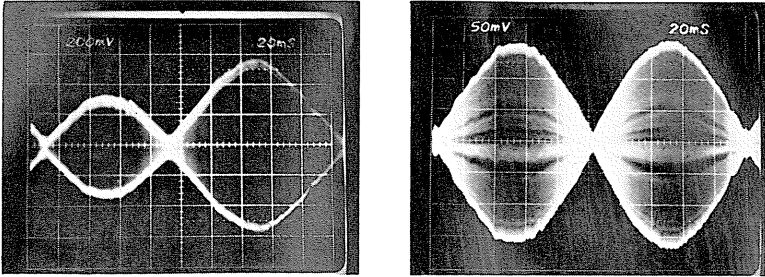

Figure 3-3. Cats Eye Pattern
- (1) Load Magnetic Head.
- (2) Perform 16 Step-In commands. The carriage will move to Track 16 (approximately).
- (3) Loosen the two stepper motor retaining screws on bottom of chassis.
- (4) Manually rotate stepper motor until the cats-eye pattern shown in Figure 3-3 is observed. Carefully rotate stepper motor until the cats-eye pattern has equal amplitudes (one lobe being 80 percent of the other).
- (5) Secure the stepper motor by tightening the retaining screws. Torque the two screws 9 to 11 in-lb.
- (6) After securing the stepper motor screws, verify Step (4). Repeat as required.